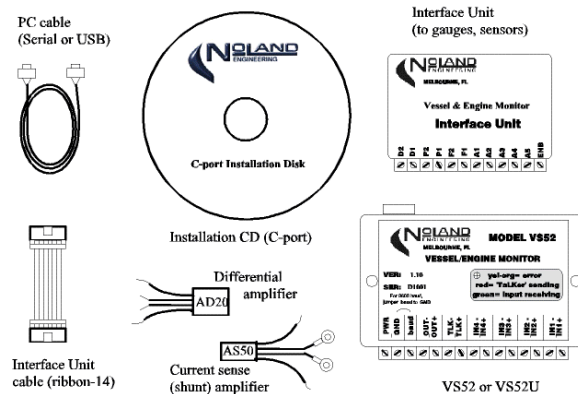

Figure 1 VS52(U) Components
- Figure 1 - VS52(U) Components
1. INTRODUCTION: The VS52(U) is a Windows© based versatile data interface system intended for marine vessel and engine monitoring. The system consists of the following components (ref. Figure 1):